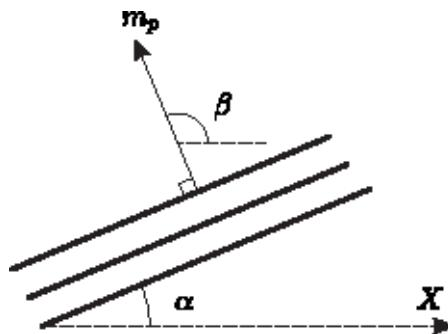

Figure 3.6: Direction of the moment capacity M_p
- **Angle (°)**, The angle (anticlockwise) described between the global x axis and the direction in which M_p is acting. Note that this is NOT the angle of the reinforcing bars (α in Figure 3.6), rather it is the angle NORMAL to them (β in Figure 3.6).